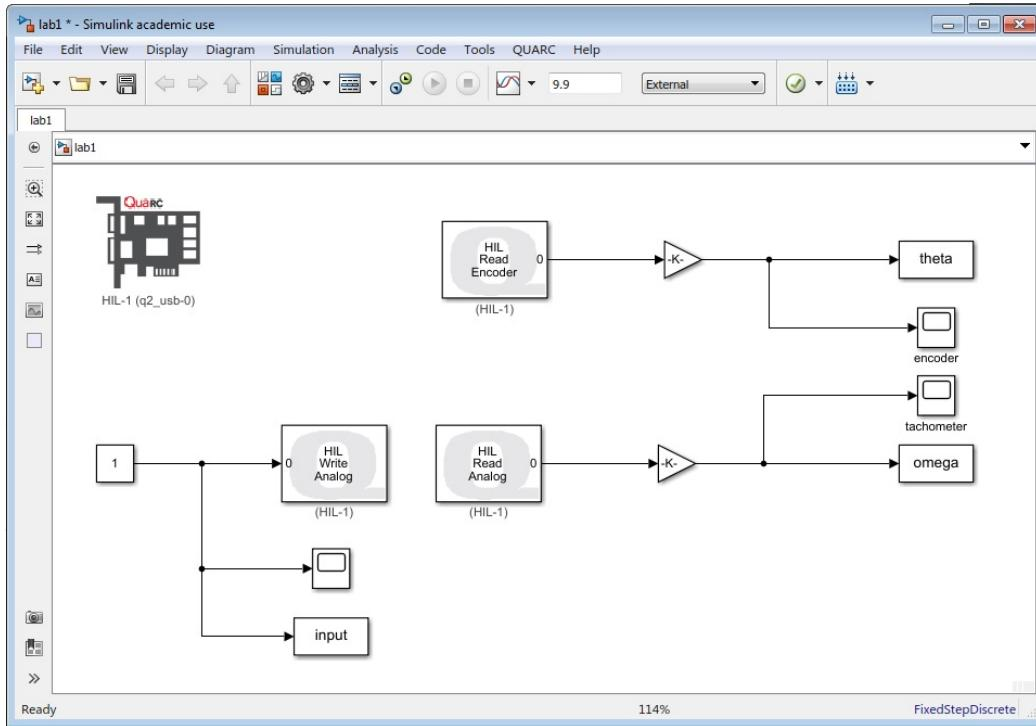

Figure 1.2: Simulink model for Lab 1
5. Build a **Simulink** model (the following steps will guide you through this) as shown in Figure 1.2. The model applies a constant voltage to the servomotor. The encoder is